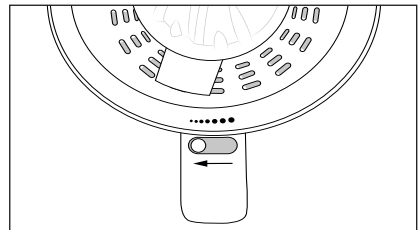
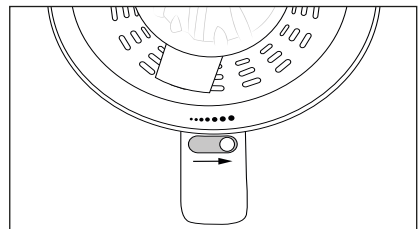

Fig. 2
Fig. 3
- ◆ Use the selector switch **6** to set the pulp content of the juice on a scale from fine (small pieces, Fig. 2) to coarse (larger pieces, Fig. 3).